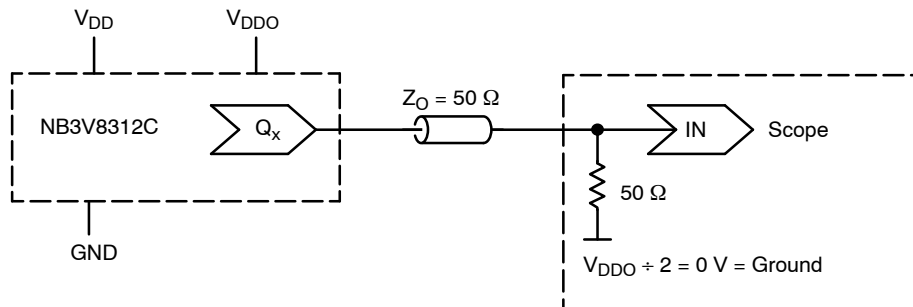

Figure 7. Typical Device Evaluation and Termination Setup – See Table 8
6. Outputs terminated $50\ \Omega$ to $V_{DDO}/2$ unless otherwise specified. See Figure 7.
7. Outputs loaded with $50\ \Omega$ to $V_{DDO}/2$; see Figure 7. CLOCK input with 50% duty cycle; minimum input amplitude = 1.2 V at $V_{DD} = 3.3$ V, 1.0 V at $V_{DD} = 2.5$ V, $V_{DD}/2$ at $V_{DD} = 1.8$ V.
7. Outputs loaded with 50Ω to $V_{DDO}/2$; see Figure 7. CLOCK input with 50% duty cycle; minimum input amplitude = 1.2 V at $V_{DD} = 3.3$ V, 1.0 V at $V_{DD} = 2.5$ V, $V_{DD}/2$ at $V_{DD} = 1.8$ V.